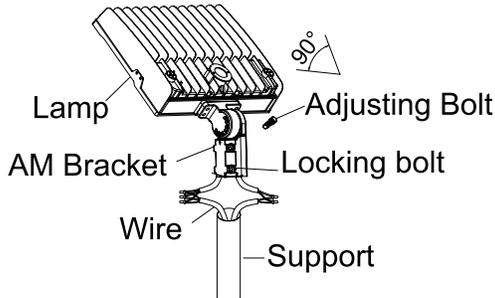

FIGURE 1
Step 1: Connect the wire correctly and put the wire into pole. Then fasten the locking bolts between slip fitter and the pole. (Figure 1)
Notice: Adjustable angle is 0+/-90° (Figure 1)